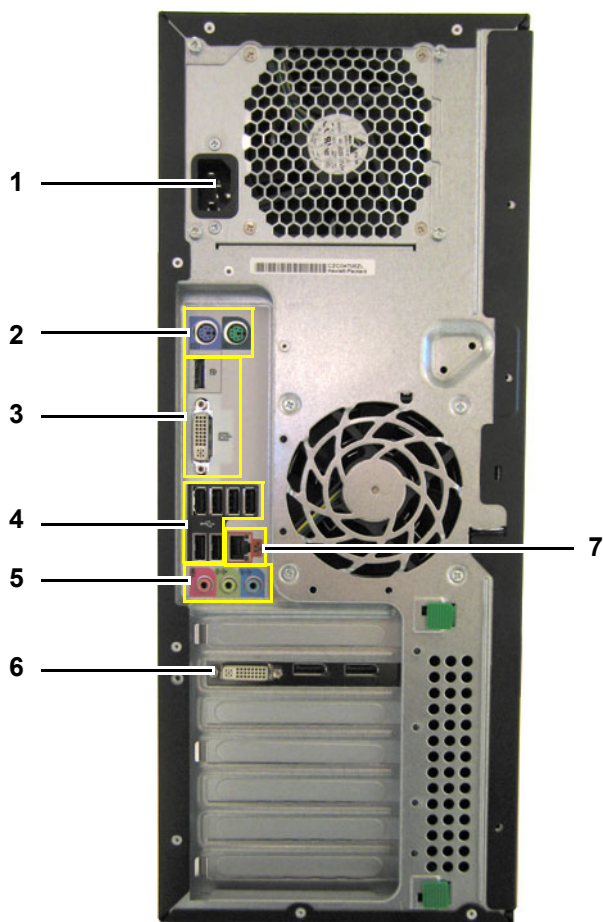

Figure 3-13 Connectors at Rear of HP Z200
- Figure 3-13 "Connectors at Rear of HP Z200" on page 3-24